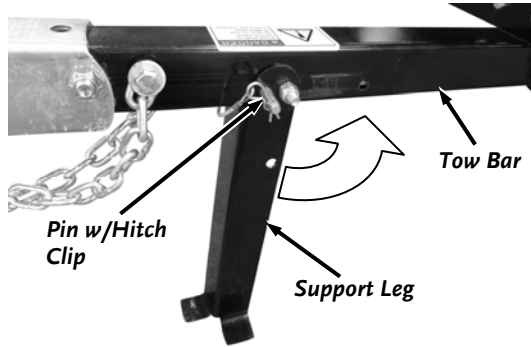

Figure 29
2. Pull the Hitch Clip from the Pin and pull the Pin from the Support Leg and Tow Bar (**Figure 29**).